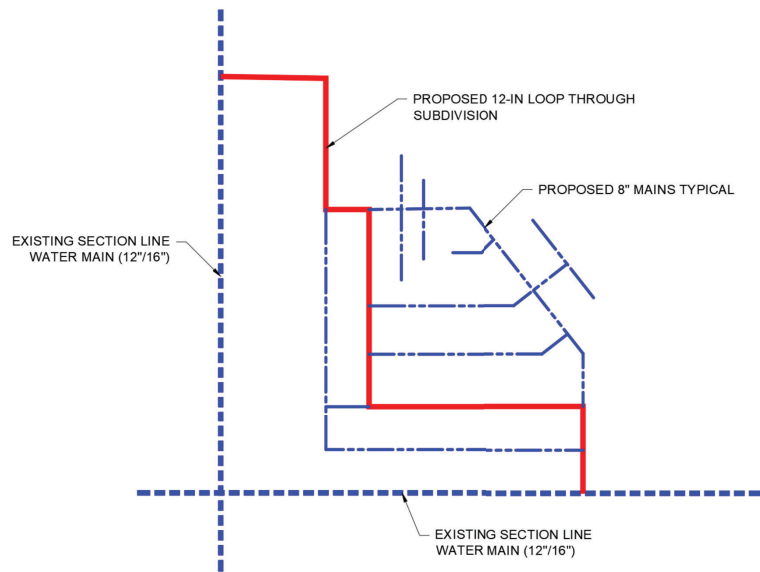

Figure 1 – 12" Water Loop
- 2.6. Unless directed otherwise from the Private Development Manager, each subdivision must have a minimum of two (2) separate connections to the Oklahoma City water system with a valve between point of water supply connections establishing an independent water supply point. A twelve (12) inch main must be installed through the development in order to supply water through the development and to establish a looped system. See Figure 1.